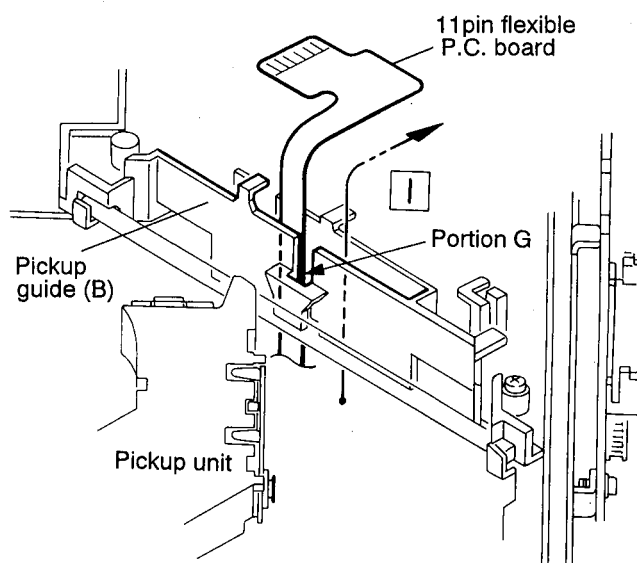

Fig. 4-24 (Back of CD mechanism)
1. In advance, pass the 11 pin flexible P.C. board toward the lower side of the pickup guide (B) (See Figs. 4-24 and 4-25).
(See Figs. 4-24 ~ 4-31)
1. After turning the CD mechanism over, the #11 pin flexible P.C. board which has been passed in advance should be inserted to the hole at the portion G on the pickup guide (Step 1) (See Fig. 4-24).
2. After passing the 11 pin flexible P.C. board down to the pawl at the portion H on the pickup guide as shown in Figs. 4-24 ~ 4-26, set the flexible P.C. board according to the order from Step 2 → Step 3 → Step 4.